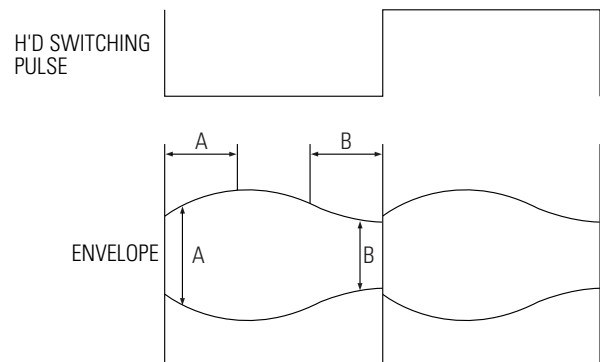

Fig. 3-5-5 Adjustment Points
- 4) If the section A in Fig. 3-5-5 does not meet the specification, adjust the guide roller S up or down.
- 5) If the section B in Fig. 3-5-5 does not meet the specification, adjust the guide roller T up or down.